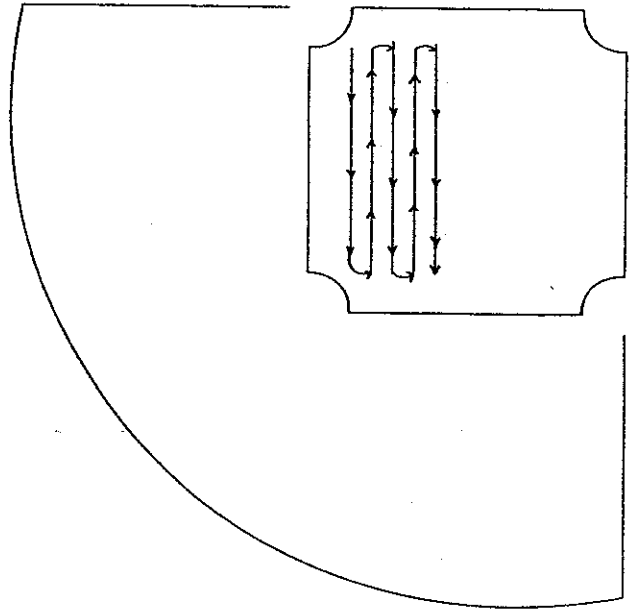

Figure 10.
- b. First base foul line to second base. (Figure 10.)